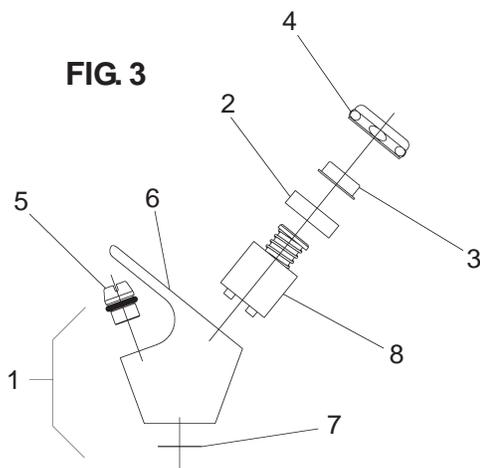

FIG. 3
Stream Height: Stream height is factory set a 45-50 PSI. If supply pressure varies greatly from this, remove items 3 and 4 (see figure 3) and adjust screw on item 8. Clockwise adjustment will raise stream and counter-clockwise adjustment will lower stream. For best adjustment, stream should hit basin approx. 6-1/2" from bubbler.